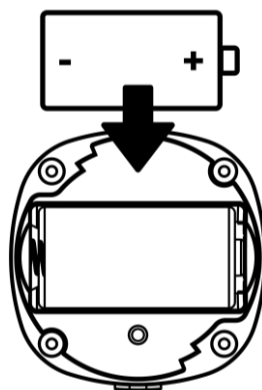

Figure 8 – Positioning of the battery in the Smoke Sensor
- When replacing the battery, the User shall observe the polarity (See Figure 8).